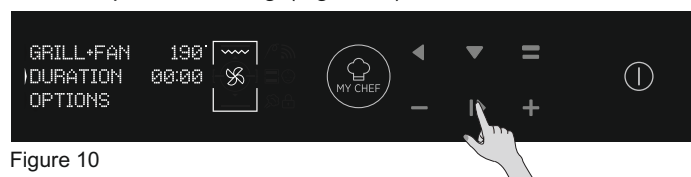

Figure 10
- Press DOWN to change the cooking duration. It is done by pressing PLUS and MINUS Buttons while arrow on the display at DURATION Tab. Press OK to begin the cooking or BACK to return to the temperature setting. (Figure 10)